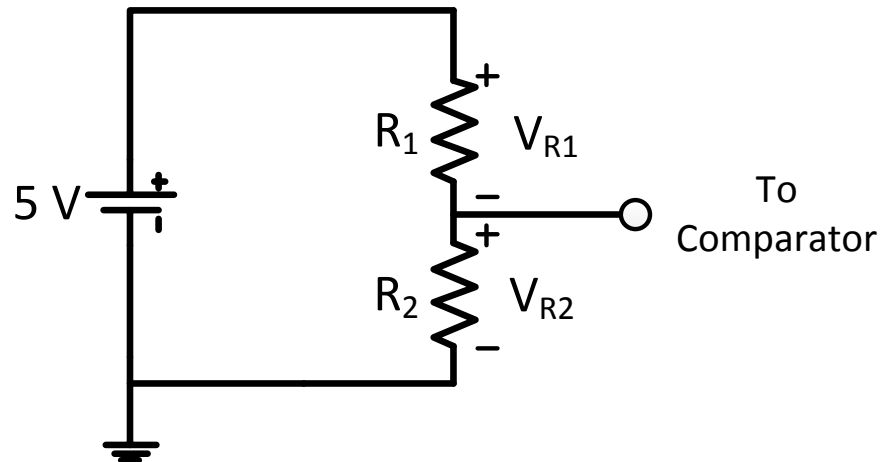

Figure 7: Reference voltage for 57°C .
- b) Next, we need to design the comparator circuit. The circuit of Figure 7 is going to produce the voltage that we compare to the LM335's voltage. So, take the value of the LM335's output voltage at 57°C and let it be V_{R2} . Now, let $R_2 = 1.2\text{ k}\Omega$ and determine what R_1 must be.